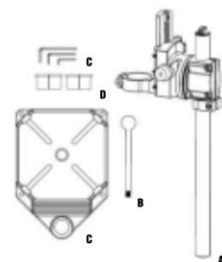

Fig. 1
1. Place the base (C) on a level, smooth floor capable of supporting the bracket and the electric drill (not included).
2. Place the column (A) as deeply as possible on the base and tighten the 2 hex bolts (#19) on the side of the base using the M8 hex key (E) (Fig. 1).